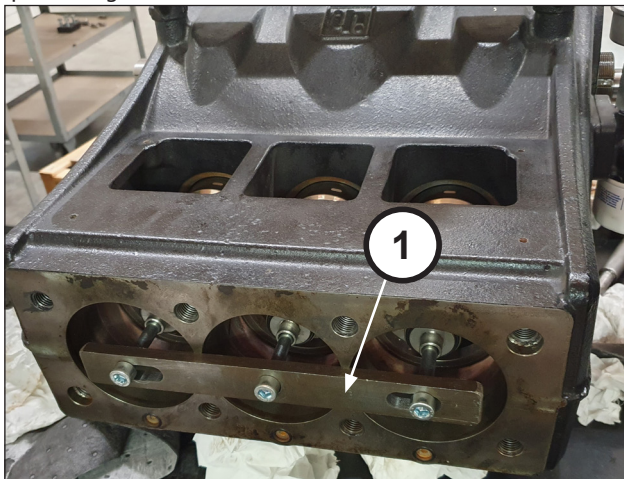

Fig. 31
To facilitate this operation, use special tool (code 27566200) – (pos. ①, Fig. 31).